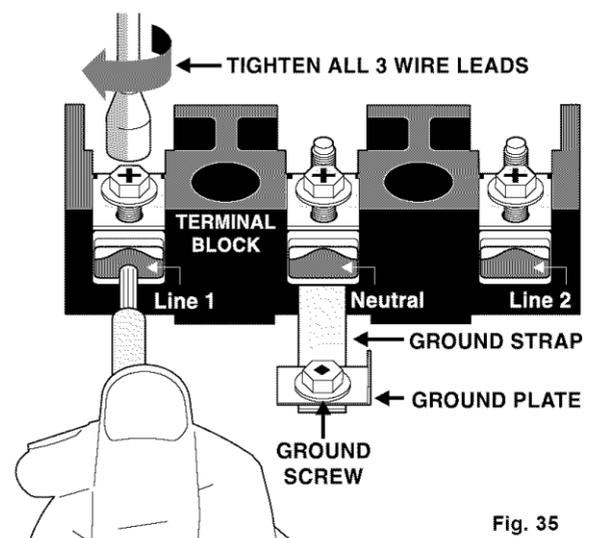

Fig. 35
2. **(3 & 4 - Wire Permanent Connections)** Strip insulation away from the ends of the permanent wiring for Line 1, Line 2, Neutral (also strip ground wire on 4-Wire Connections). Tighten all 3 wire leads to the terminal block (Follow wire locations shown in Fig. 35). **IMPORTANT NOTE:** DO NOT LOOSEN the factory installed nut connections which secure the range wiring to the terminal block. Electrical failure or loss of electrical connection may occur if these 3 nuts are loosened or removed. **NOTE: For 3-Wire Permanent Connections skip Steps 3 & 4 and continue with Step 5.**